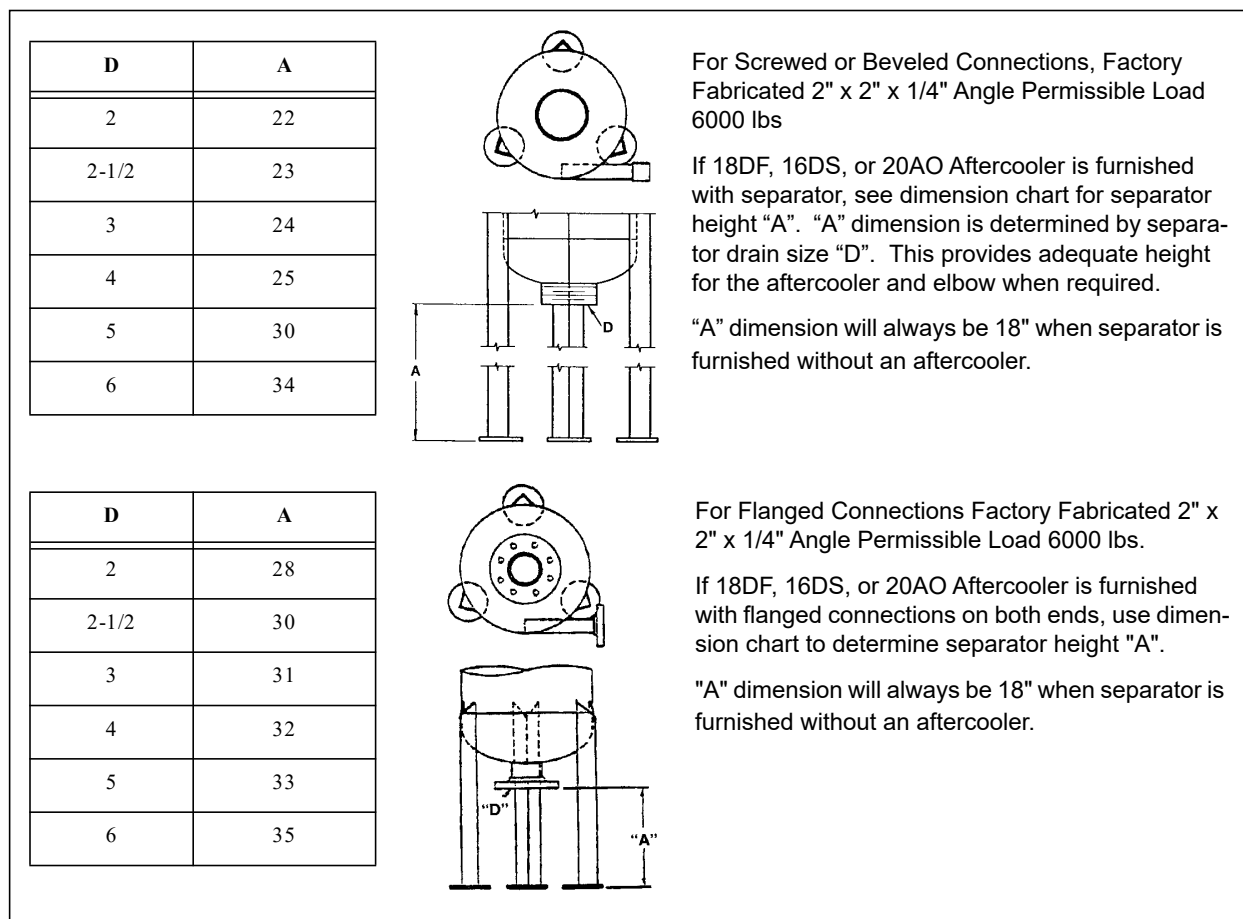

Figure 6. Separator Floor Stand
- Separator Floor Stand (Figure 6) - Provides an excellent means for supporting separators. Constructed of sturdy angle iron. They come attached to the separator to provide an easy and expedient means of installation. Standard height raises separator 18 inches from floor, or when aftercoolers are provided, additional height is provided.